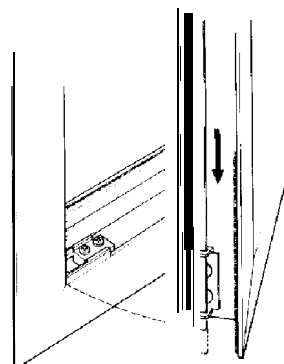

Fig. 5
10.8. PREPARING THE LOCKING RODS (Fig. 5)
10.8.2.3 Mark the rods where they coincide with the inside of the frame as shown in Fig. 5, remove the rods and cut accurately to length, then file a small equal chamfer on each side to ease engagement with the keep.